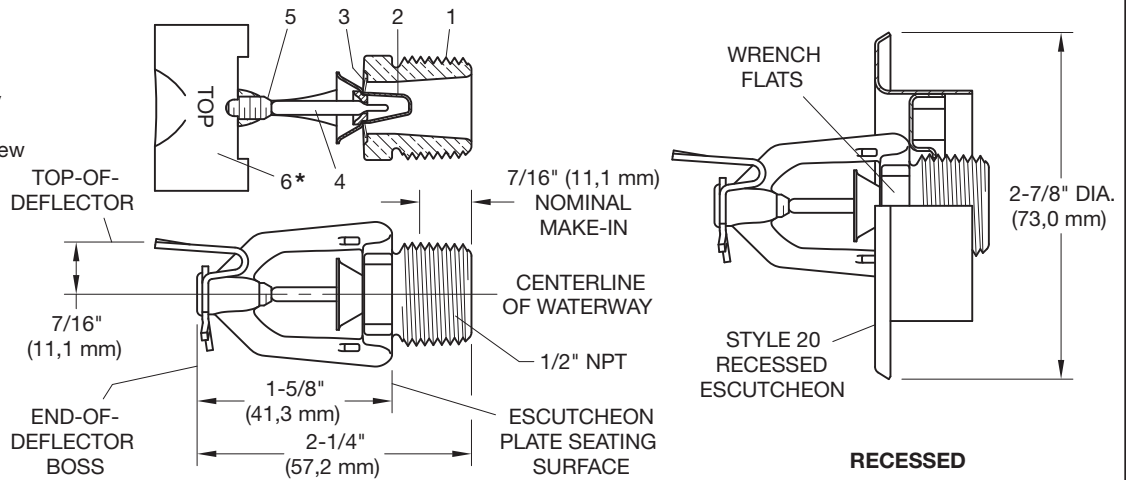

FIGURE 1
Step 3. Tighten the sprinkler into the sprinkler fitting using only the W-Type 6 Sprinkler Wrench (Figure 3). With reference to Figure 1, the W-Type 6 Sprinkler Wrench is to be applied to the wrench flats.
Step C. Tighten the sprinkler into the sprinkler fitting using only the W-Type 7 Recessed Sprinkler Wrench (Ref. Figure 4). With reference to Figure 1, the W-Type 7 Recessed Sprinkler Wrench is to be applied to the sprinkler wrench flats.